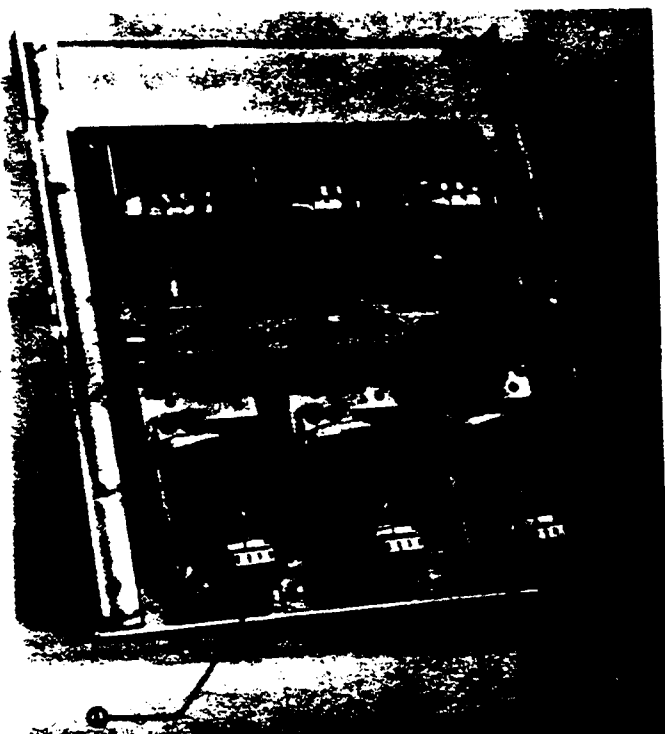

Figure 1. (8041487) Backframe for AK-3-50 Breakers showing Coil Assembly
1. The sensor CT taps should be set at the correct current rating on all three phases. These taps must be secure. The Power Supply rating disc should also be set to the correct current rating. (See Figure 1 and Figure 3).